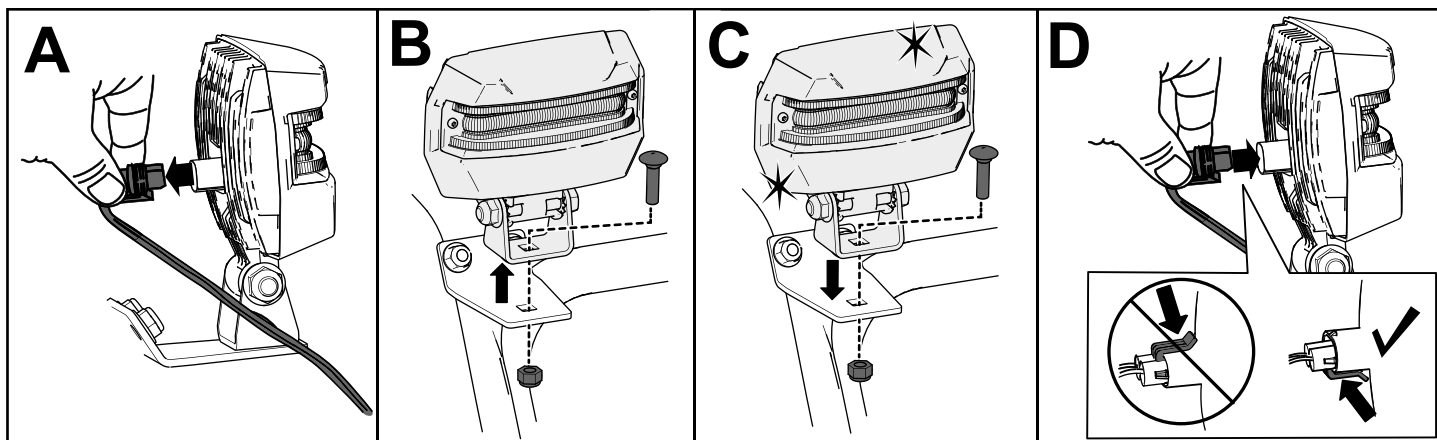

Figure 38
1. Remove the headlight wire from the back of the headlight (A of Figure 38).
2. Remove the bolt and nut holding the headlight assembly onto the headlight bracket and then remove the old headlight assembly (B of Figure 38).
- Secure the new headlight assembly onto the headlight bracket with the previously removed nut and bolt (C of Figure 38).
- Insert the headlight wire straight into the back of the headlight until it is securely in place (D of Figure 38).